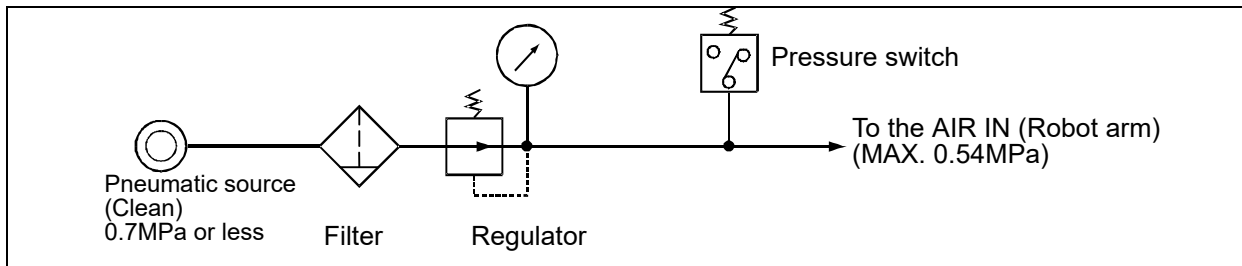

Fig.2-8: Air supply circuit example for the hand
- 2) When the factory pneumatic pressure drops, as a result of the hand clamp strength weakening, there can be damage to the work. To prevent it, install a pressure switch to the source of the air as shown in Fig. 2-8 and use the circuit described so that the robot stops when pressure drops. Use a hand with a spring-pressure clamp, or a mechanical lock-type hand, that can be used in cases where the pressure switch becomes damaged.